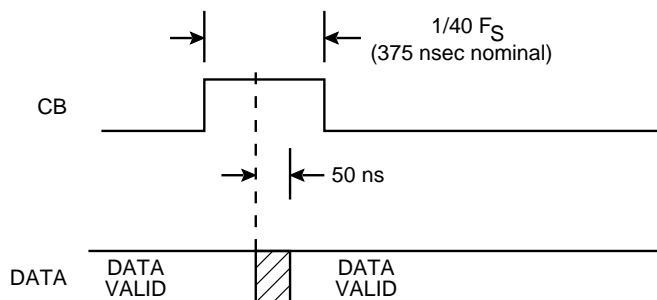

FIGURE 15. CONVERTER BUSY TIMING
The Converter Busy (CB) signal indicates that the tracking converter output angle is changing 1 LSB. As shown in FIGURE 15, output data is valid 50 ns maximum after the middle of the CB pulse. The CB pulse width is $1/40 F_s$, which is nominally 375 ns.